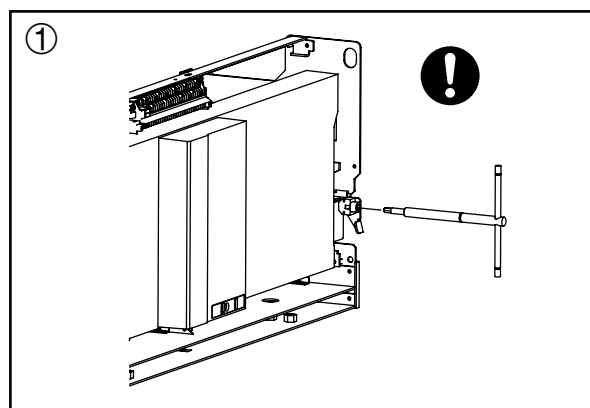

Fig. 13-1
- ① Remove two fixing bolts (M12) for the types AE4000 ~ 6300-SW. (See Fig. 13-1)